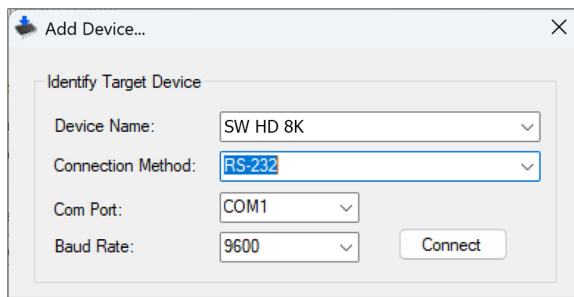

Figure 17. Identify Target Device Panel for an RS-232 Connection
- In the Identify Target Device panel (see figure 17, ① on page 30), make the following selections: